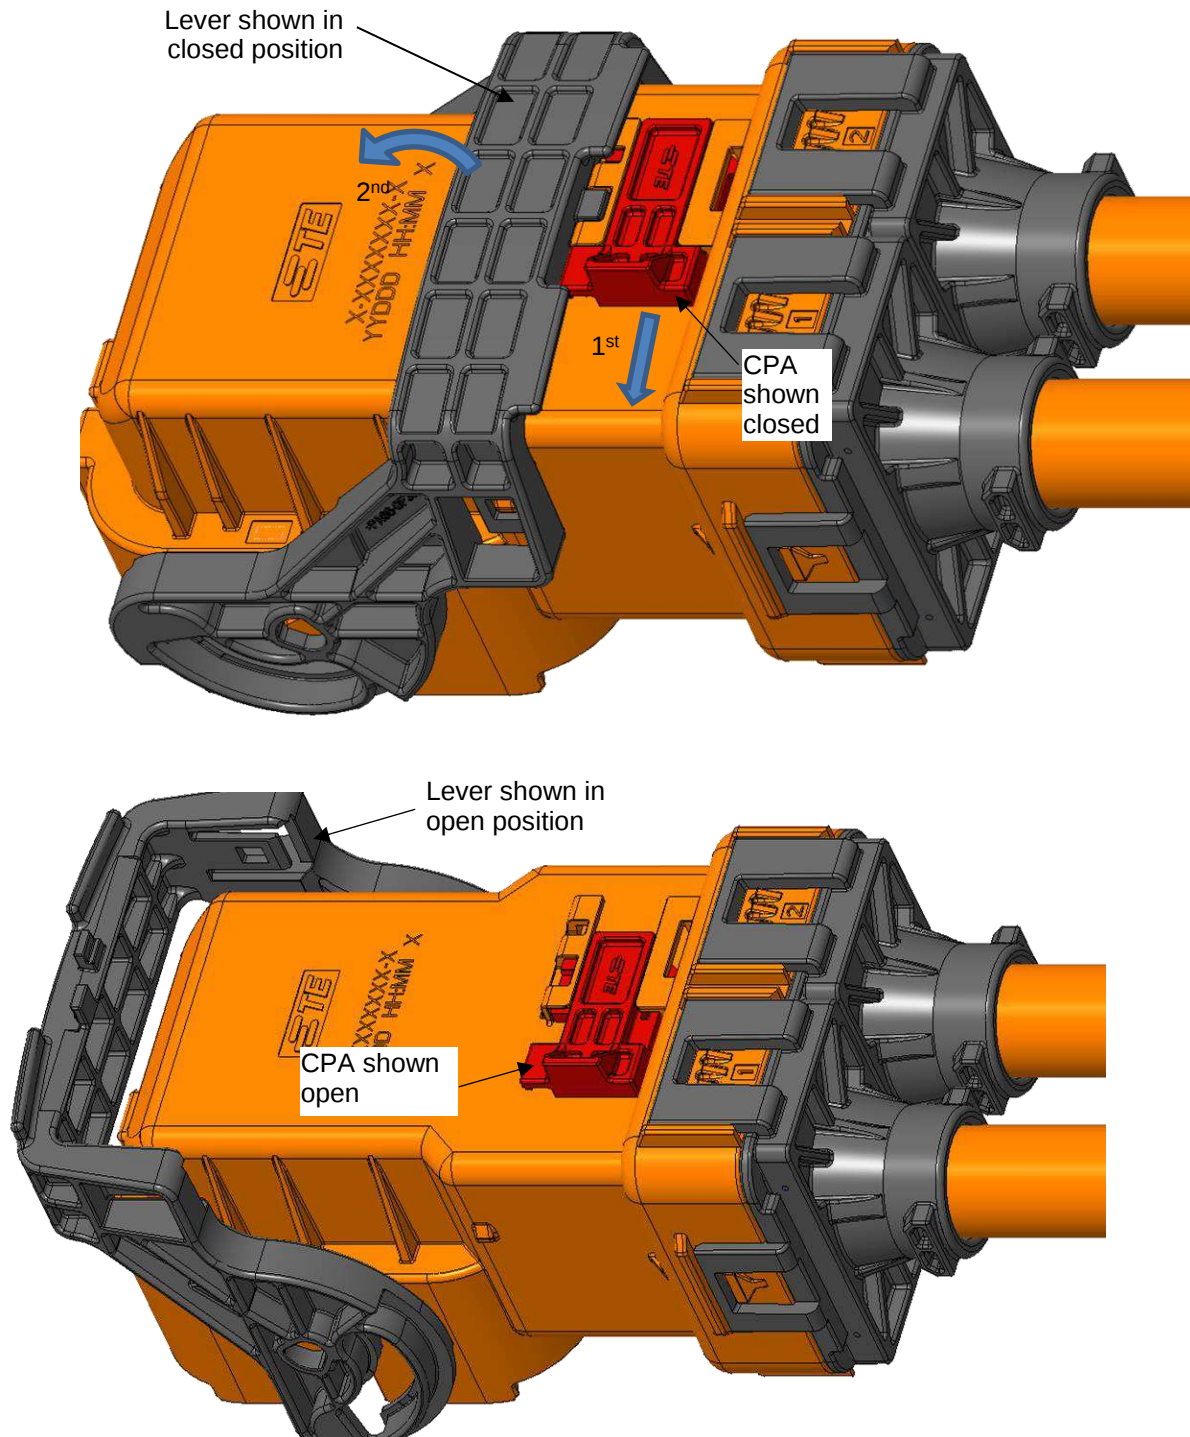

Figure 17: Assembly Lever and CPA in close and open positions
1. If the assembly is shipped with the Lever and/or red Connector Position Assurance (CPA) in the closed position first, if necessary, actuate the CPA to the open position, then open the lever to the open position as shown in Figure 17.